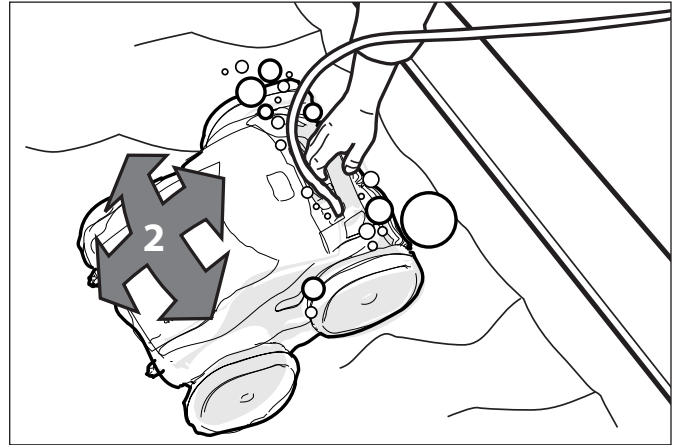

Figure 13. Cleaner Sinking to the Bottom of the Pool
3. Ensure the unit sinks to the bottom of the pool and does not float (Figure 13).